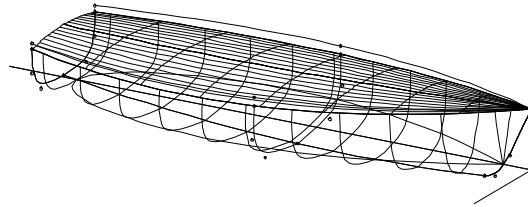

Fig. 19
- 7 Turn on the Symmetry Images (<F5>)** and rotate the model so you can see how the deck joins its image smoothly across the centerplane (Fig. 19).